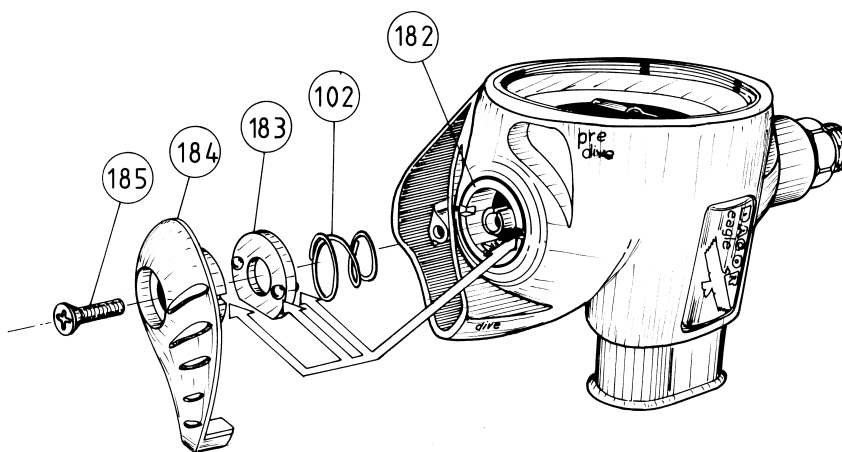

FIG. 10
h) Correctly fit the DPD clamp (182) on the spring (102) (Fig. 10).
i) Correctly insert the DPD knob (184) on the DPD body (182) (Fig. 10).